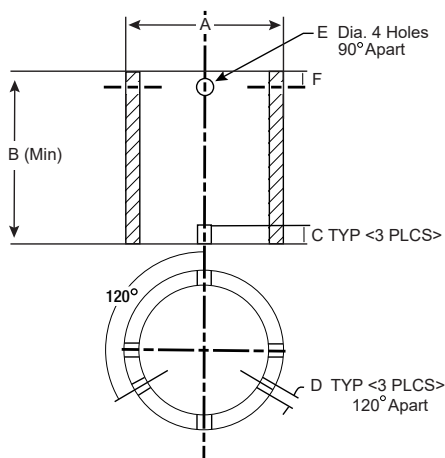
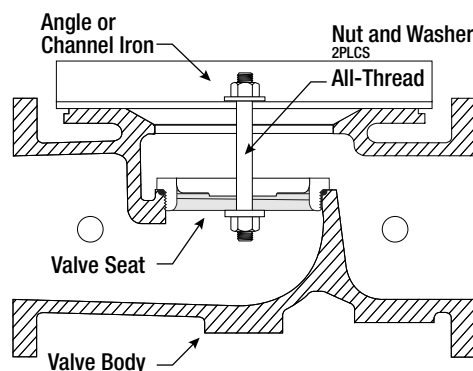

Figure 7
Figure 8
7. Inspect valve seat. If seat is not damaged, removal is not necessary. Valve seats 6" and smaller are threaded into the body of the valve and require a seat removal tool (Figure 7) (Table 1 details the tool dimensions for seat removal). Valve seats 8" and larger are held in the valve body with stainless steel cap screws. Remove seat retaining screws and lift seat straight up (Figure 8).